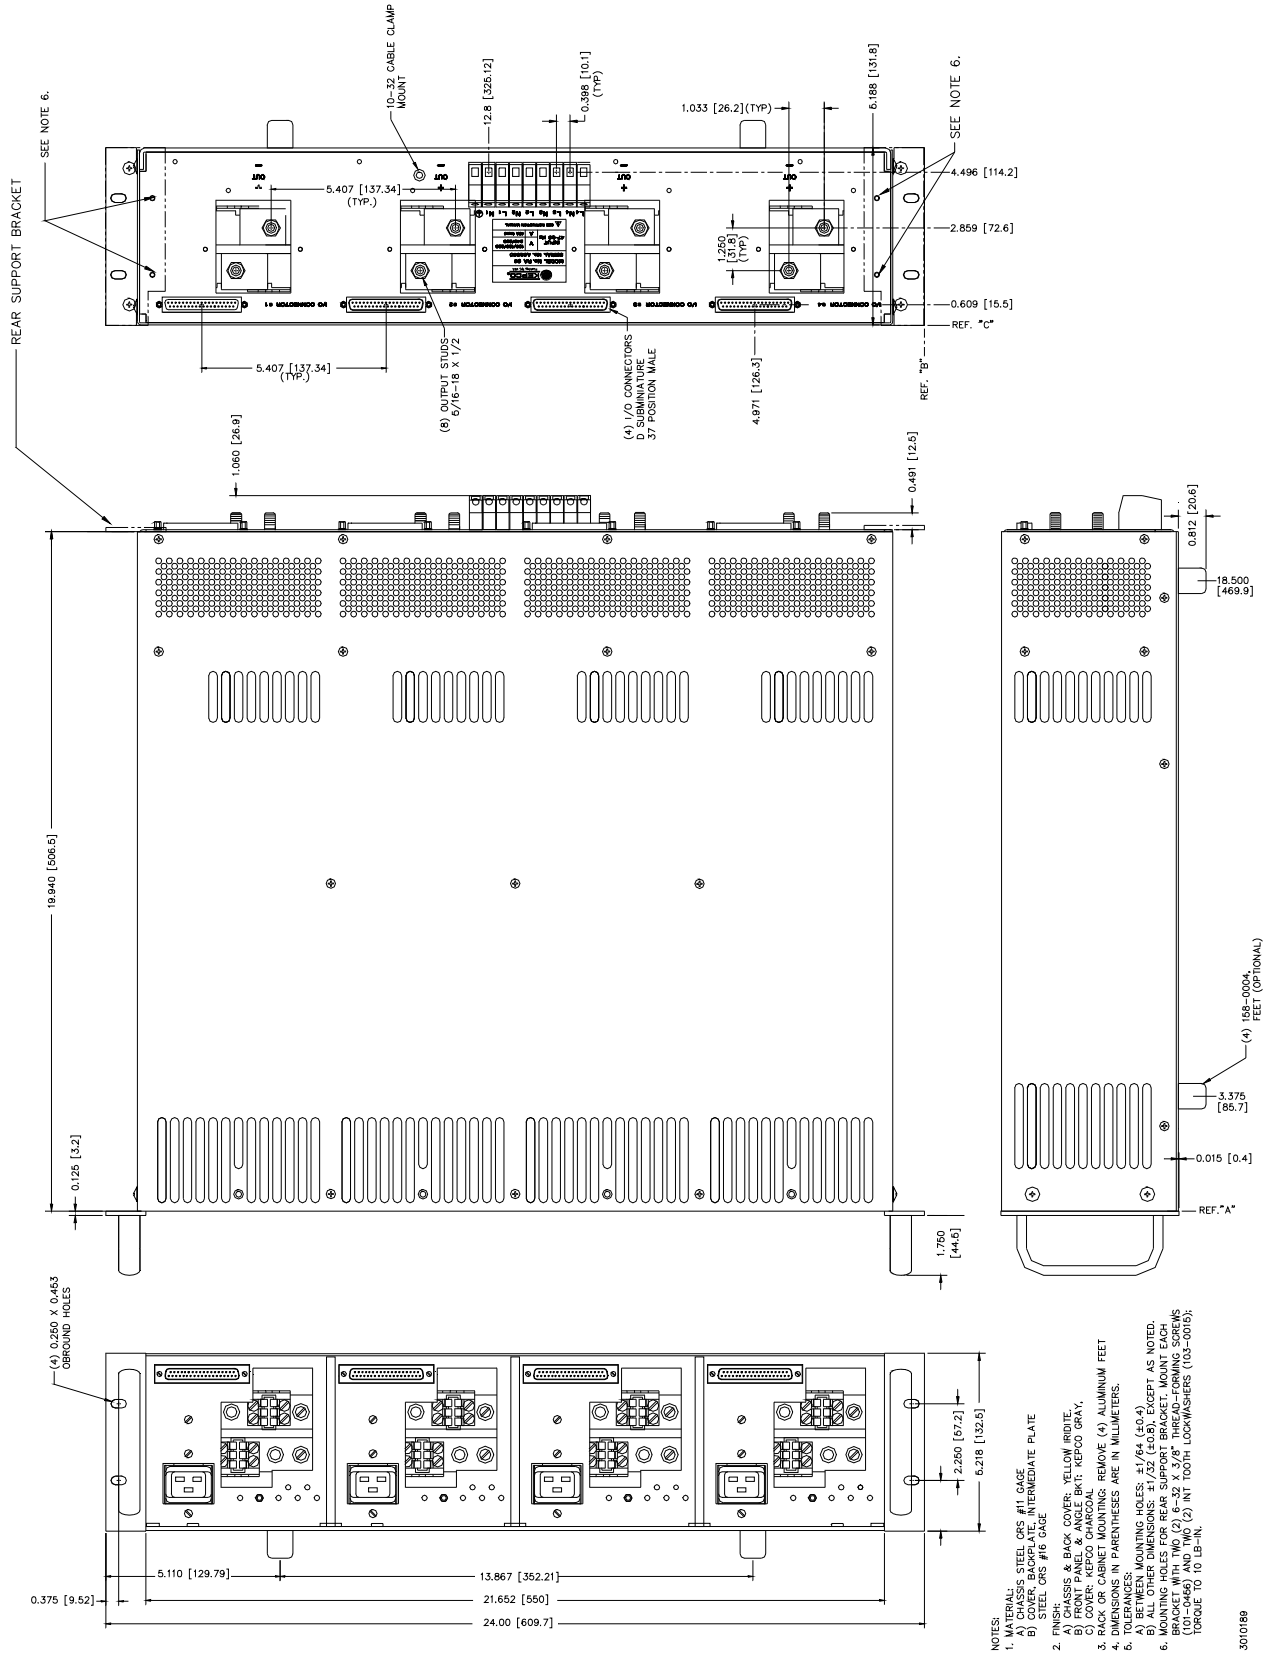

FIGURE 1-2. MECHANICAL OUTLINE DRAWING, RA 59 RACK ADAPTER
External dimensions and all mechanical and electrical specifications are contained in the outline drawing: Figure 1-2.
2.6 INSTALLATION (Refer to “Mechanical Outline Drawing,” Figure 1-2.)